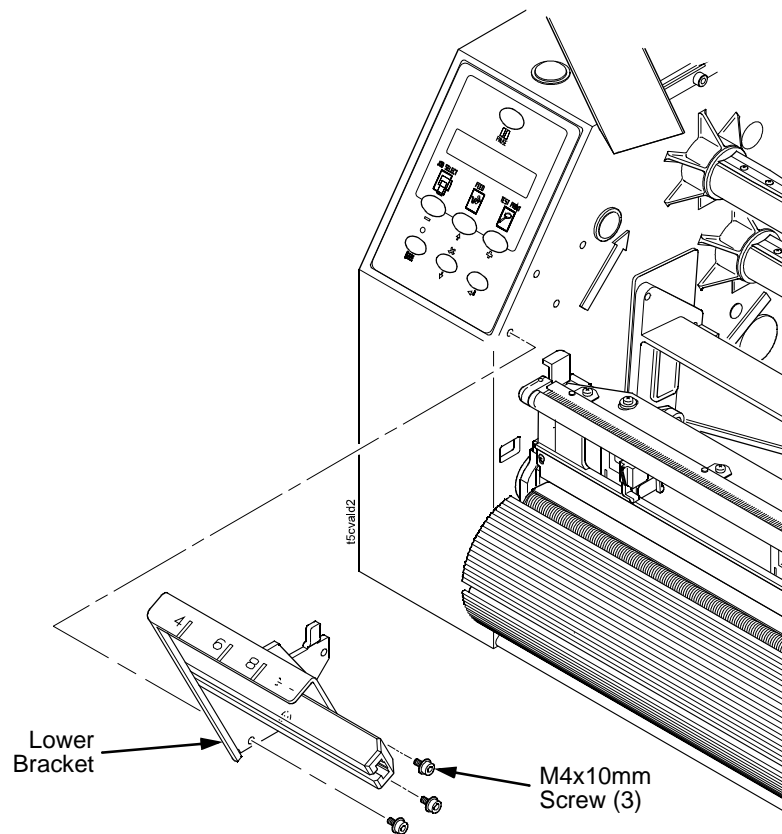

Figure 8. Installing the Lower Bracket
1. Using three of the four M4x10mm screws, install the lower bracket as shown in Figure 8.